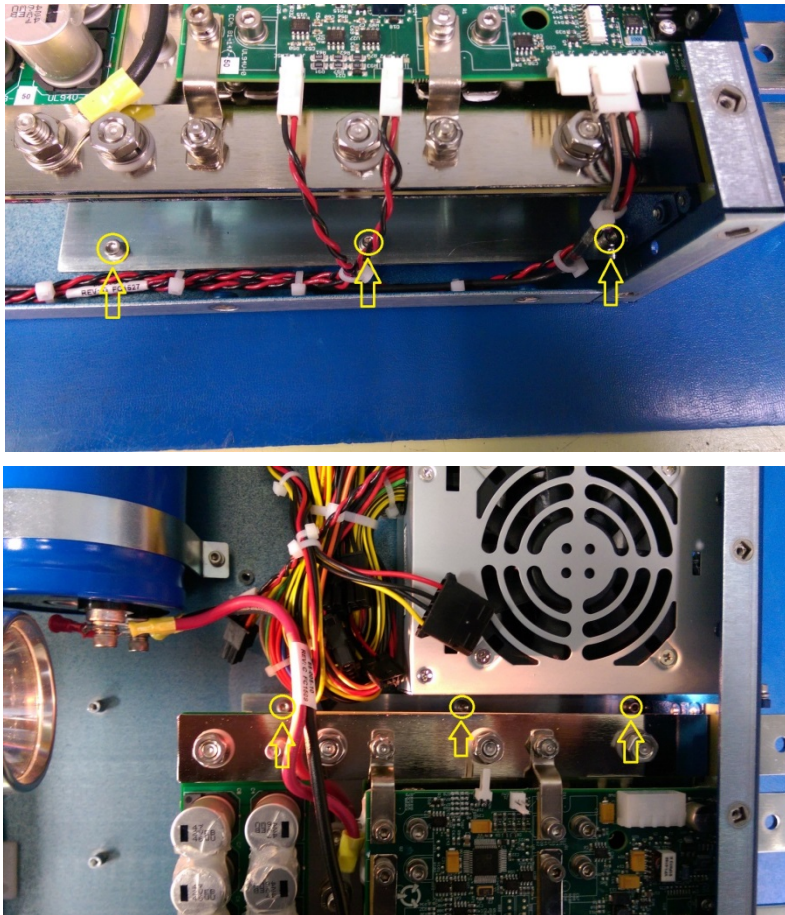

Figure 5 & 6: Remove 6 socket head cap screws
9. Using a 7/64 socket head screwdriver, remove the 6 socket head cap screws holding the AIM assembly to the floor of the eDrive. See Figures 5 & 6 below.
15. Bolt the AIM assembly to the floor of the eDrive with the 6 socket head screws. See Figures 5 & 6.